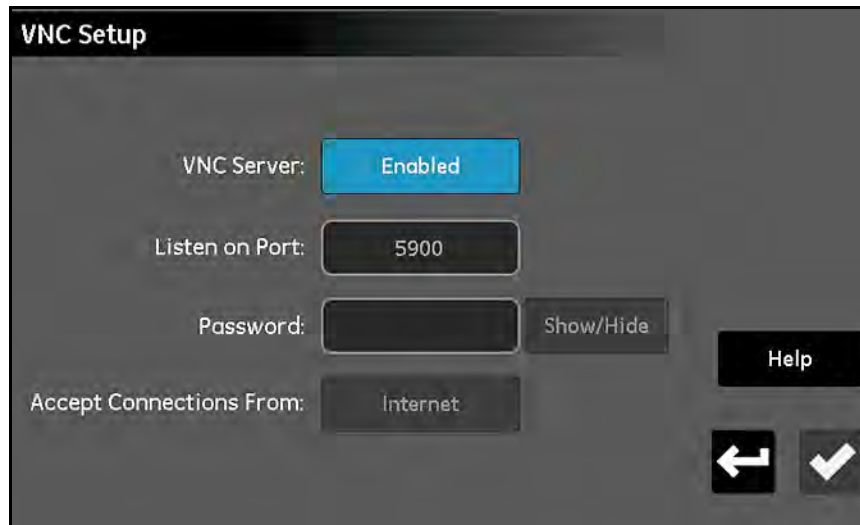

Figure 72: VNC Setup Screen
1. From the *Configuration Menu* screen (see *Figure 52* on page 57), tap the **VNC** button to open a *VNC Setup* screen similar to *Figure 72* below.